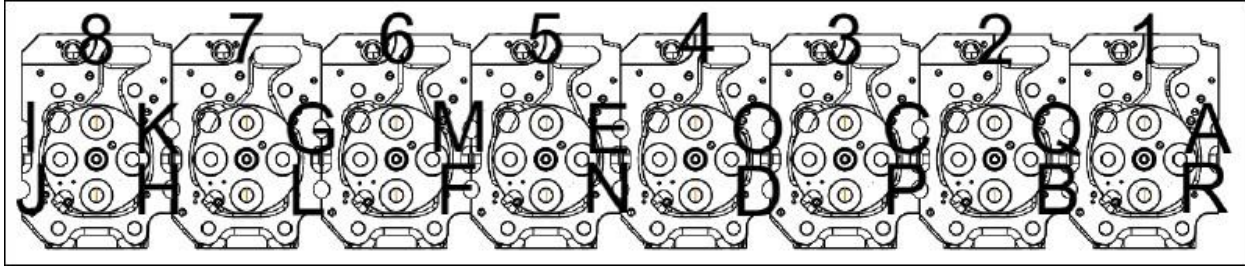

Figure 75. Secondary Bolt Torquing Order
- Tighten the secondary bolts in order A through R (Figure 75) to 59 ft/lbs.